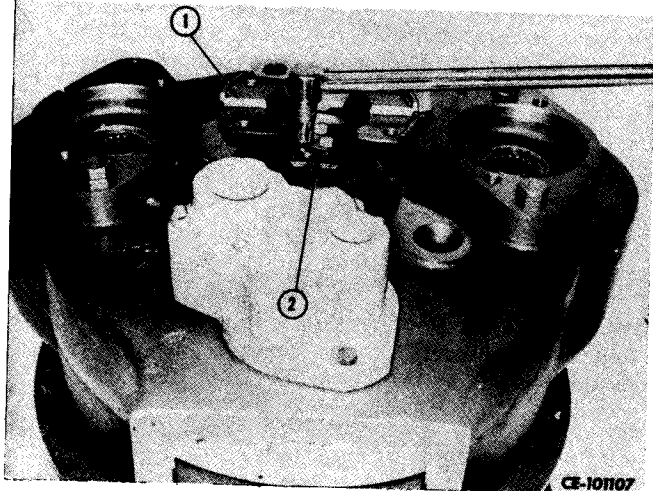

Figure 3-51
Place output yoke (1, Fig. 3-51) over splines of output shaft. Install retaining washer (2) and locking plate on output shaft and secure with cap screws. Tighten cap screws to recommended torque (refer to "SPECIAL TORQUES").